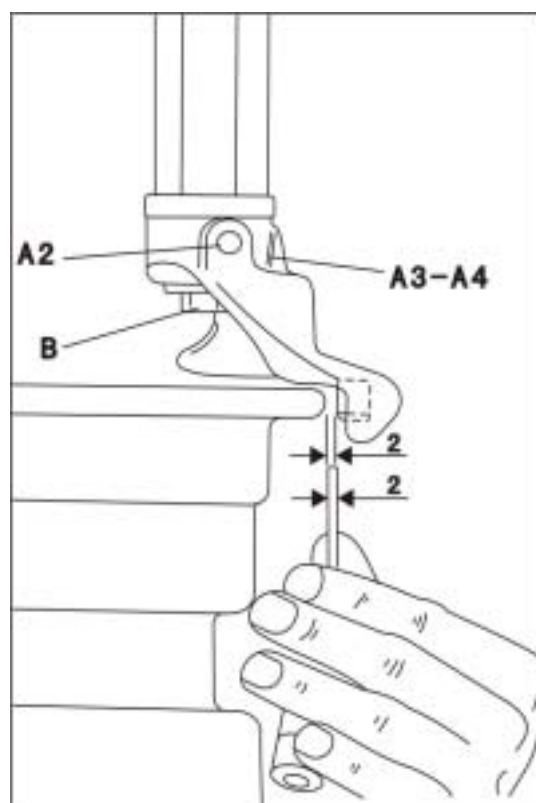
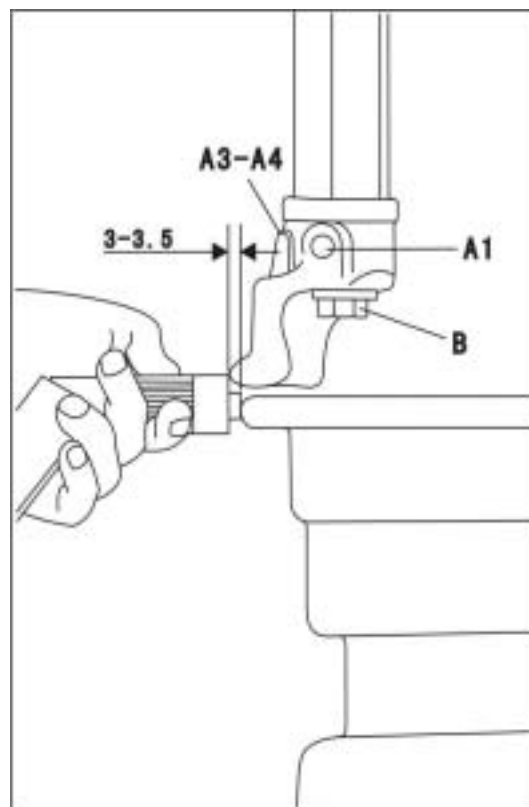

Fig.37
Fig.38
- Finger-tighten screws A3-A4(fig.37 and fig.38) in order to turn the mount / demount head and obtain the correct position.